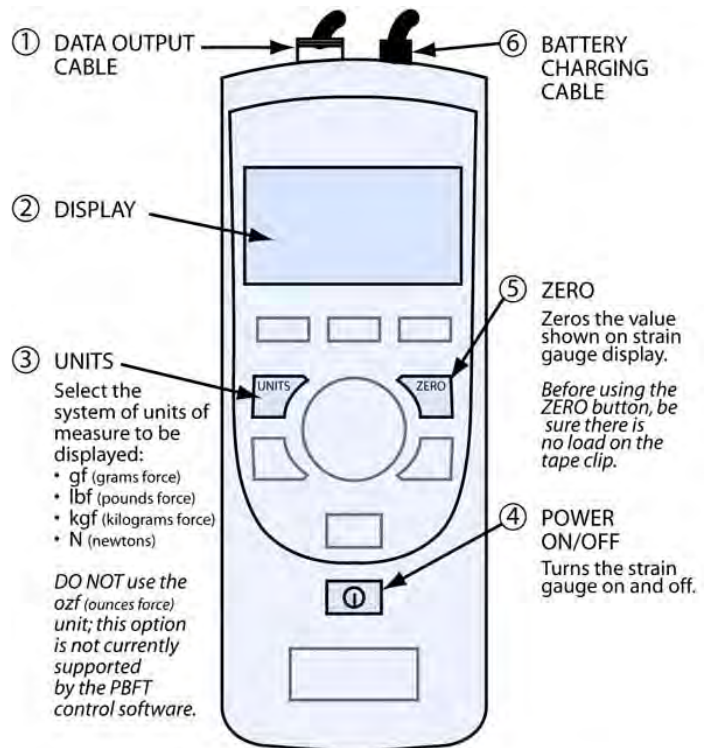

Figure 3 Strain Gauge - key elements
- Battery charging cable (page 2, Figure 3, Item 6).
- Data output cable (Figure 3, Item 1).
- b. Press and hold the strain gauge power on/off button (Figure 3, Item 4) until a display (Figure 3, Item 2) appears:
- b. Press and hold the strain gauge power on/off button (page 2, Figure 3, Item 4) until a display (Figure 3, Item 2) appears.